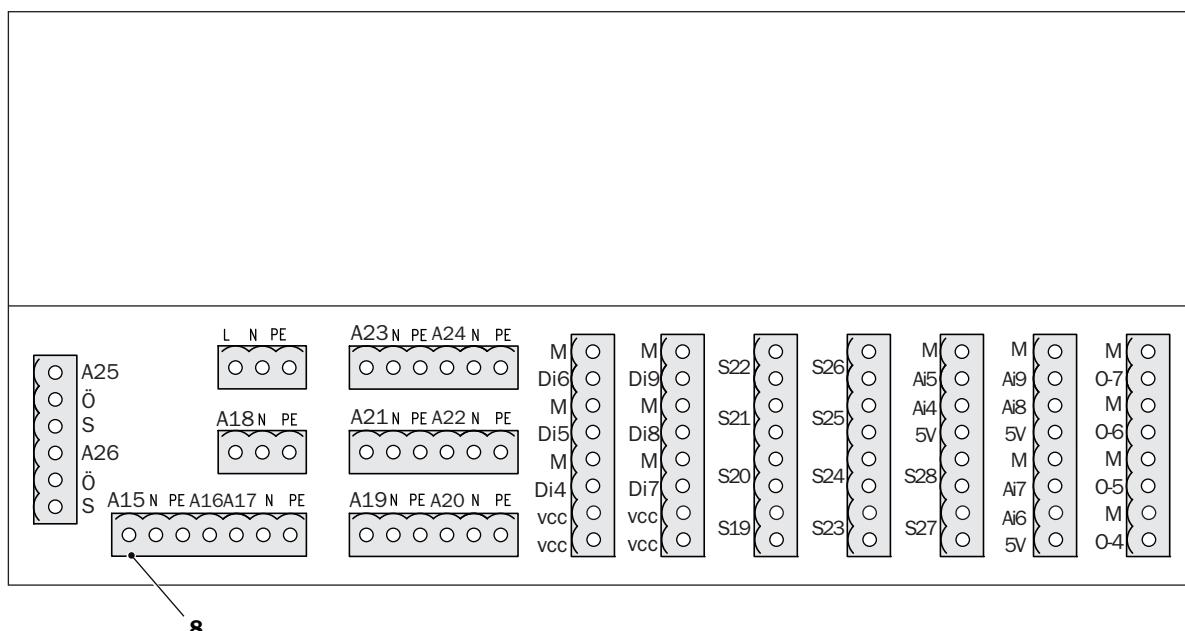

Fig. 9: Additional board
3. Remove the plugs for the pumps (2 - 7) from the mains module and (8) the additional board (\rightarrow Fig. 9) and plug them into (2 - 8) the emergency cable tree.